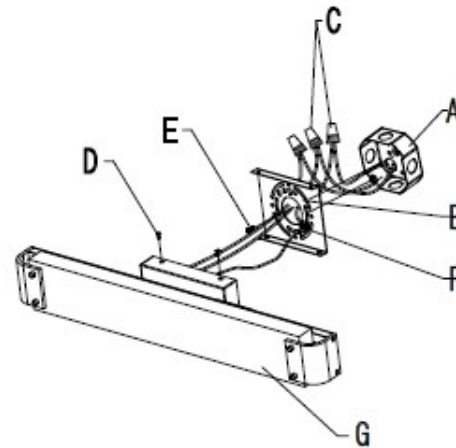

Fig. 2
CONNECTION THE WIRES (Fig. 2)
4. Connect the electrical wires as shown in Fig. 2, making sure that all wire connectors are secured. If your junction box (A) has a ground wire (green or bare copper), connect the fixture's ground wire to it. Otherwise, connect the fixture's ground wire directly to the mounting plate (B) using the green screw provided.
5. Tuck wire connections neatly inside the junction box (A).